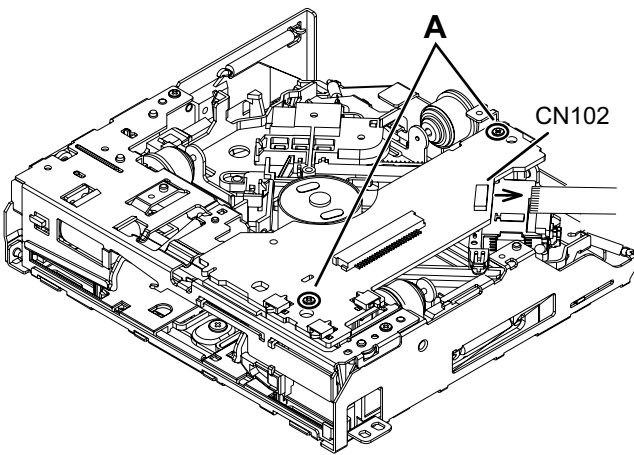

Fig.3
- (3) Disconnect the flexible wire from the pickup connected to the connector CN102 on the Mecha control board. (See Fig.3)
- (4) Remove the 2 screws **A** attaching the Mecha control board. (See Fig.3)